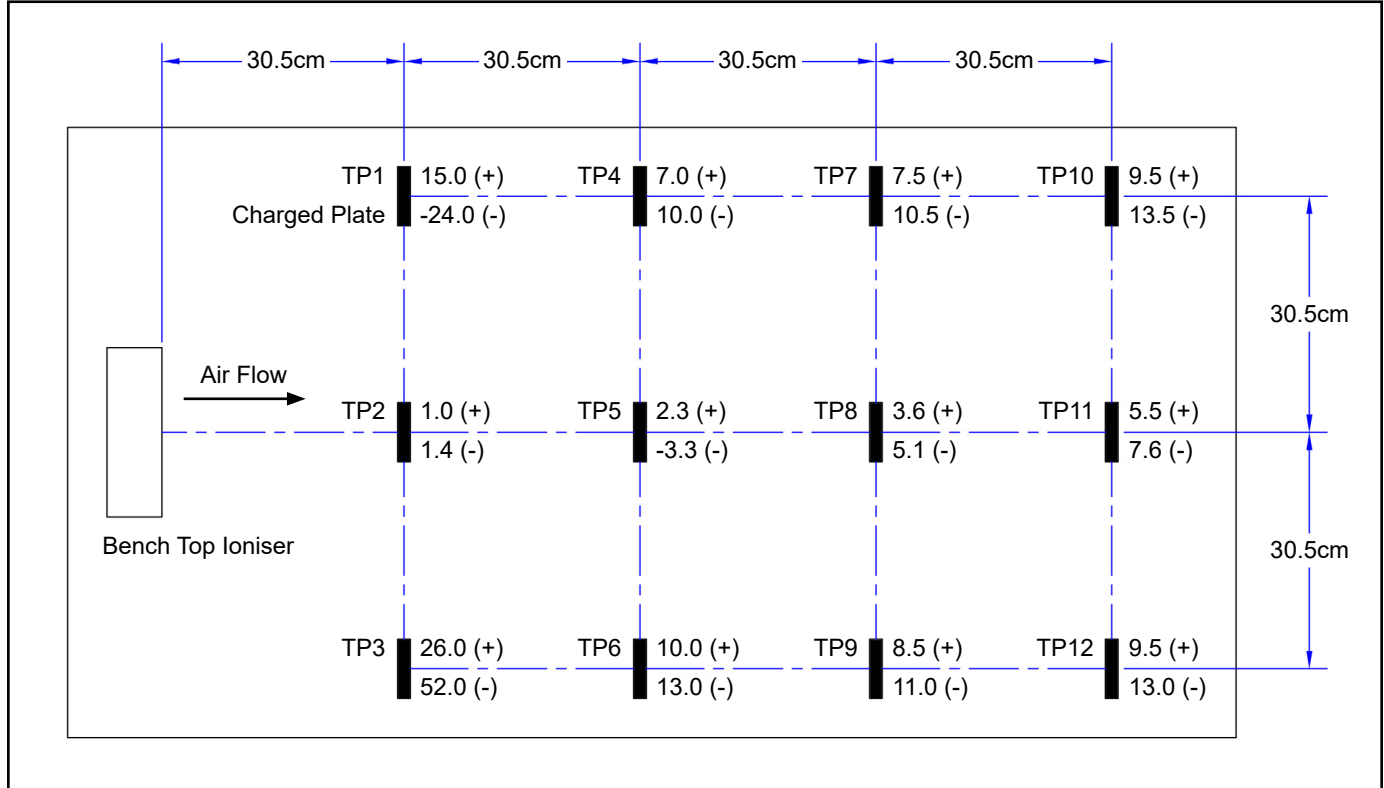

Figure 4. Neutralisation (Decay) Times at 120VAC / 220VAC, 60Hz input
5. Test the neutralisation (decay) time by applying a $\pm 1,000$ volt charge on the charged plate analyser. The neutralisation (decay) time should be less than 2 seconds. See figures 4 and 5 for typical decay times.
The comparative efficiency of bench top ionisers is determined by a standard test IEC 61340-4-7 (or ESD Association ANSI/ESD STM 3.1). Actual measurements of positive (+1,000 to +100 volts) and negative (-1,000 to -100 volts) decay times are shown in Figures 4 and 5. The performance of the ioniser was measured with the unit positioned as shown, with the fan speed on high and without a filter.
Balance (offset voltage) at 30 cm in front of Ioniser (see Figures 4 and 5)